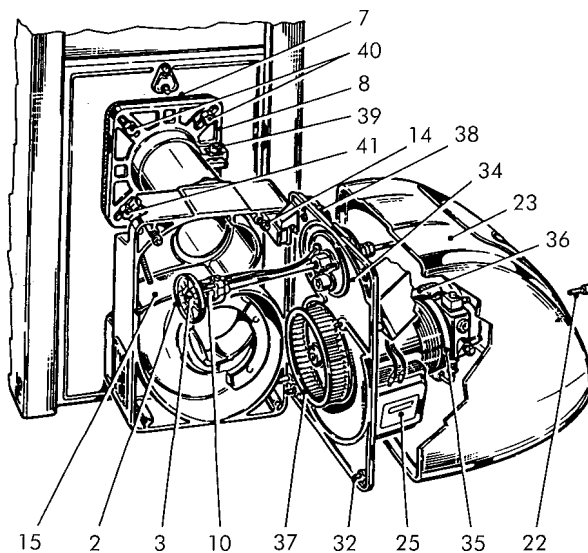

Fig. 16
- Remove the cover (23) by loosening the screw (22).
- Loosen the lower screws (32) completely.
- Parzialmente loosen the upper screws (14) too.
- Release by raising the component support plate (34) and hook it in its seat as illustrated in fig. 16.